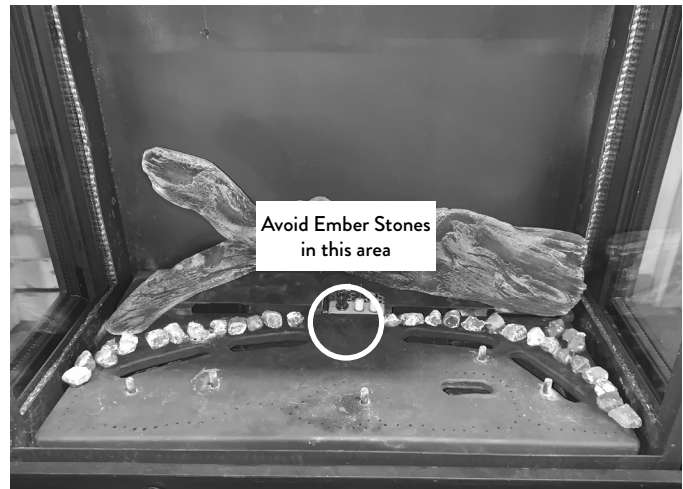

Figure 11.2. Place 12-15 Ember Stones on each side of the Burner. Avoid the Pilot carry-over area.
2. **Place 12-15 Ember Stones on each side of the rear of the Burner as shown in fig. 11.2. KEEP EMBER STONES AWAY FROM THE PILOT CARRY-OVER AREA AND BURNER PERIMETER.**